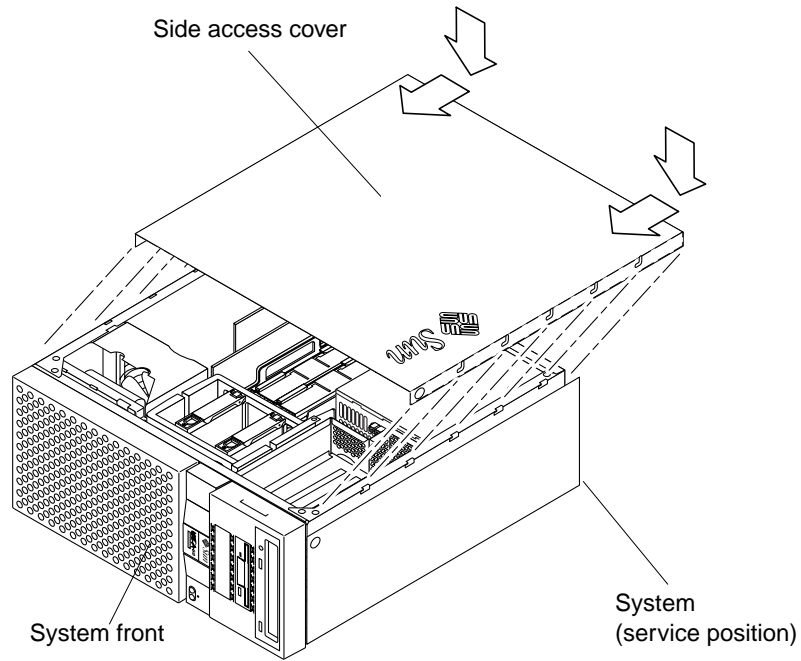

FIGURE 3-5 Replacing the Side Access Cover
1. **Position the side access cover** (see FIGURE 3-5).